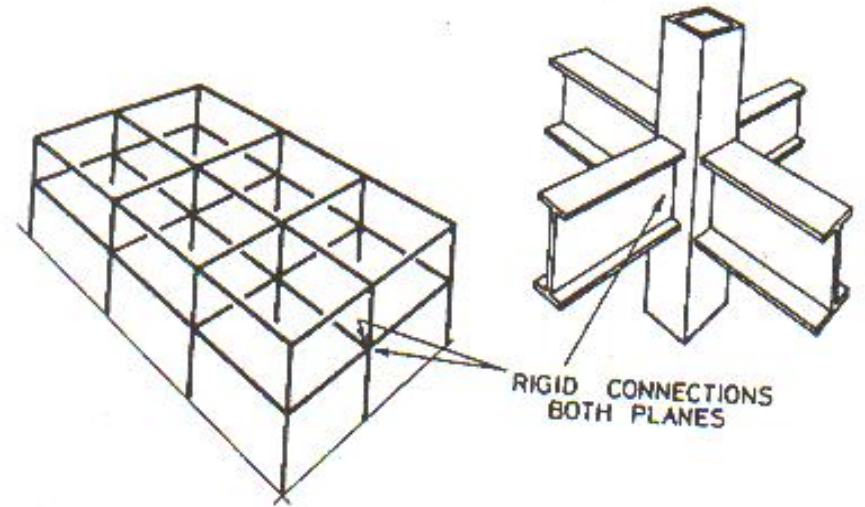

Fig 3.3 Two-way rigid framework
- Two-way rigid framework (AISC Fig. 3.3)